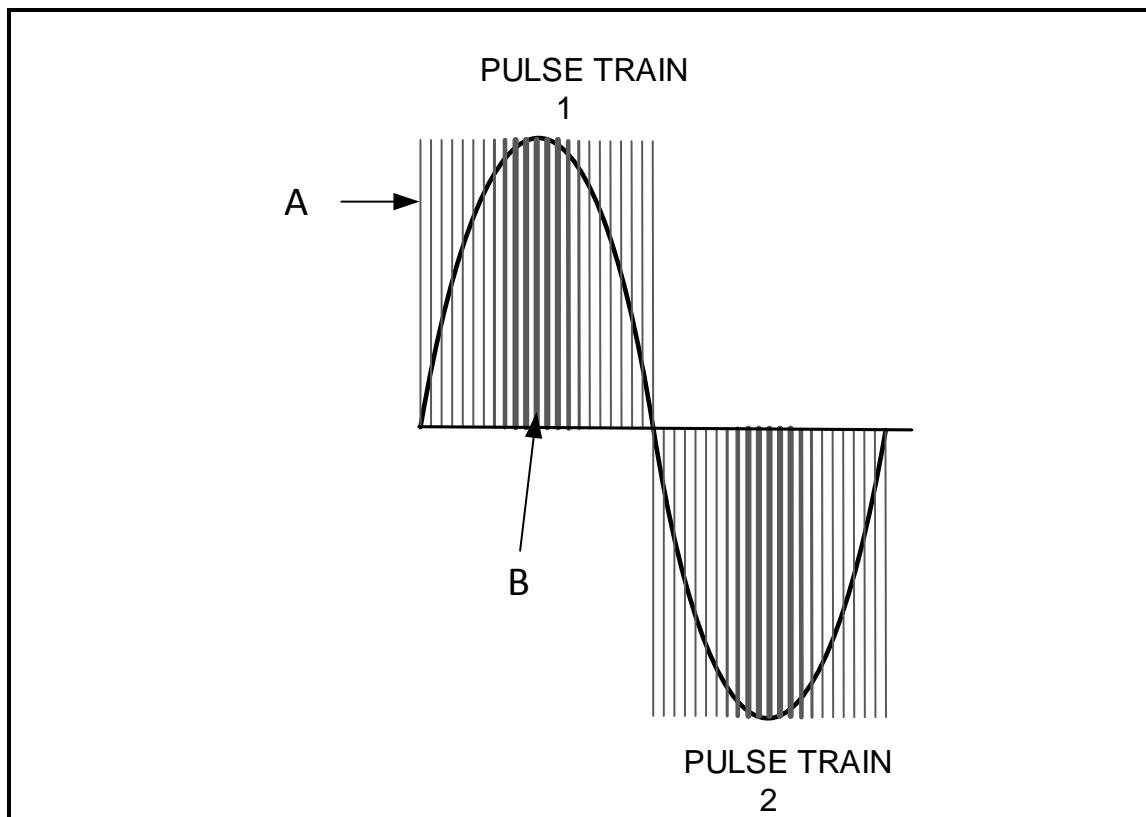

FIGURE 6.11: TRAIN OF PULSES
- 6.11 Refer to the VSD output voltage pulses in FIGURE 6.11 below, and answer the questions that follow.
- 6.11.1 Describe the duration of the switching time at area **A** and area **B** with reference to pulse width modulation in FIGURE 6.11. (2)
- 6.11.2 State the effects the width of the pulses has on the average output voltage in FIGURE 6.11 **A**. (2)